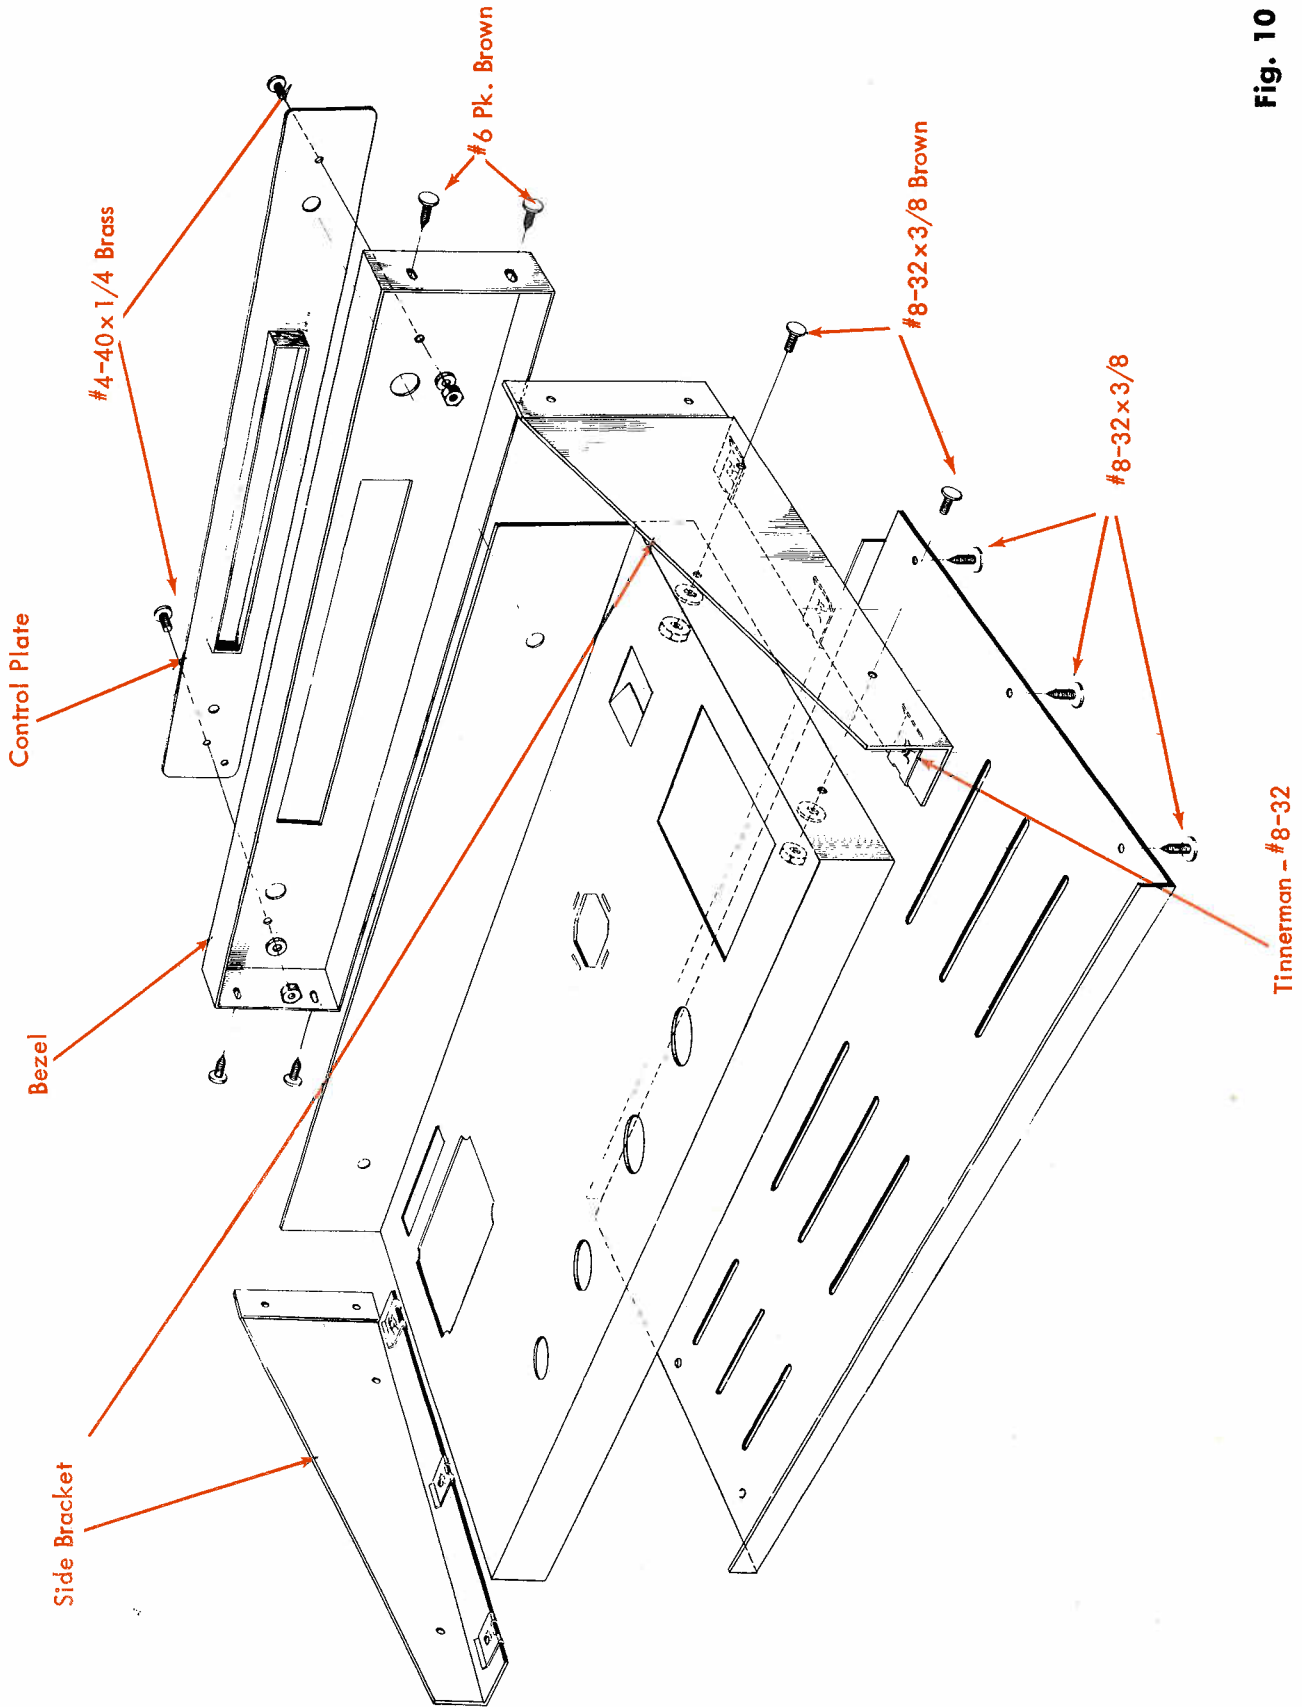

Fig. 10
4. () Fig. 10. Assemble the left and right side brackets to the chassis. Each side bracket is mounted with two #8-32 x 3/8 brown colored screws, two #8-32 hex nuts, and two #8 lockwashers.
5. () Fig. 10. On the bottom flange of each side piece, press a finnerman #8-32 - Type J speed nut in place over each of the three holes.
6. () Fig. 10. Mount the control plate on the bezel using two each #4-40 x 1/4 brass screws, #4 lockwashers, and #4 hex nuts to fasten it to the bezel.
7. () Fig. 10. Fit the bezel and control plate over the projecting control shafts, onto the ends of the side brackets. Assemble the bezel to the side brackets with four #6 x 1/4 brown colored P. K. screws.
11. () Fig. 10. Mount the bottom plate on the bottom flanges of the side pieces, using six #8-32 x 3/8 uncolored screws. Note that the rear flange on the bottom plate fits over the outside of the rear chassis apron.
12. () Fig. 10. Install the rubber feet in the openings provided in the bottom plate. The method is to work the rounded portion of each foot into the interior of the cabinet from the outside, using a small screwdriver. The flat portion